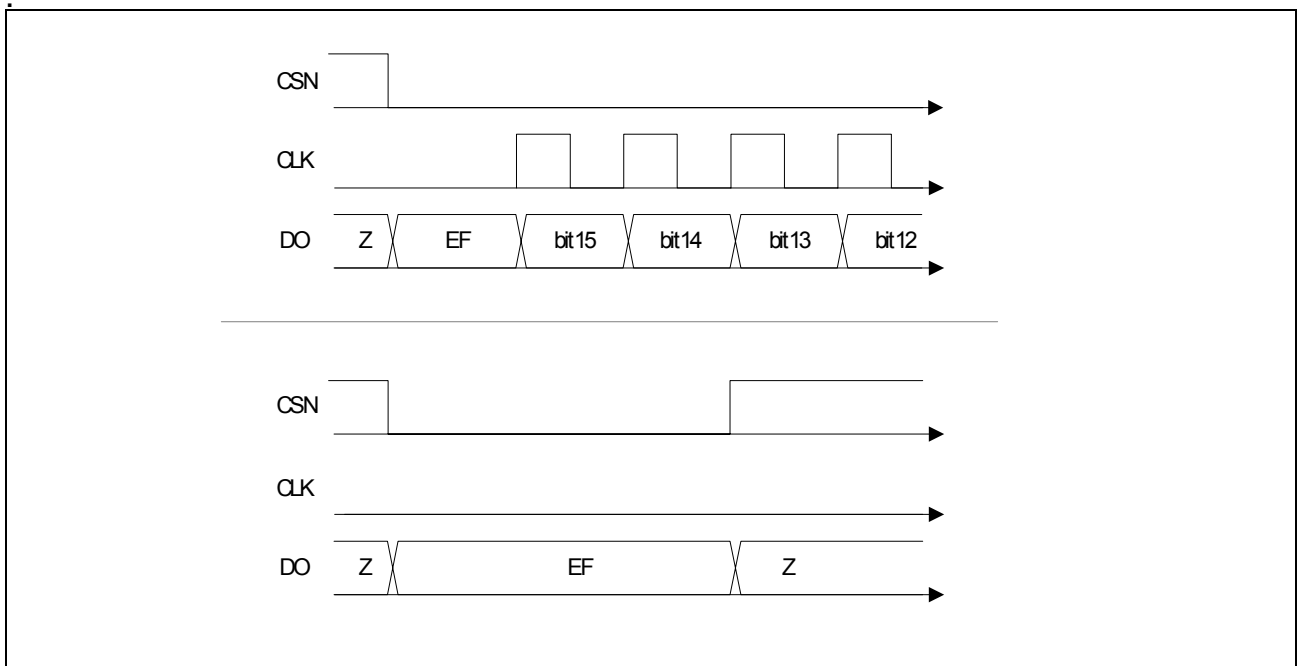

Figure 6 Error Flag transmission on DO during standard SPI transmission (top), or without additional SPI transmission, CLK low (bottom)
In addition to the 16 bits transferred from the TLE 7201R to the SPI master, an additional Error Flag (EF) is transmitted at the DO pin. The EF status is shown on the DO pin after CSN H->L, before the first rising edge at CLK, as shown in **Figure 6**.